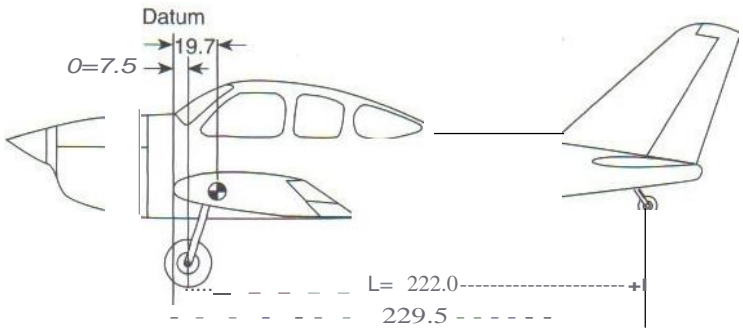

Figure 16.4. The datum is the leading edge of the wing at the wing root.
In Figure 16.4, the datum is at the leading edge of the wing at the wing root. The distance (D) between the main-wheel weighing points and the datum is +7.5 inches. The weight of the tail wheel (R) is 67 pounds, the distance (L) between the main wheel and the tail-wheel weighing points is 222.0 inches, and the total weight (W) is 1,218 pounds.